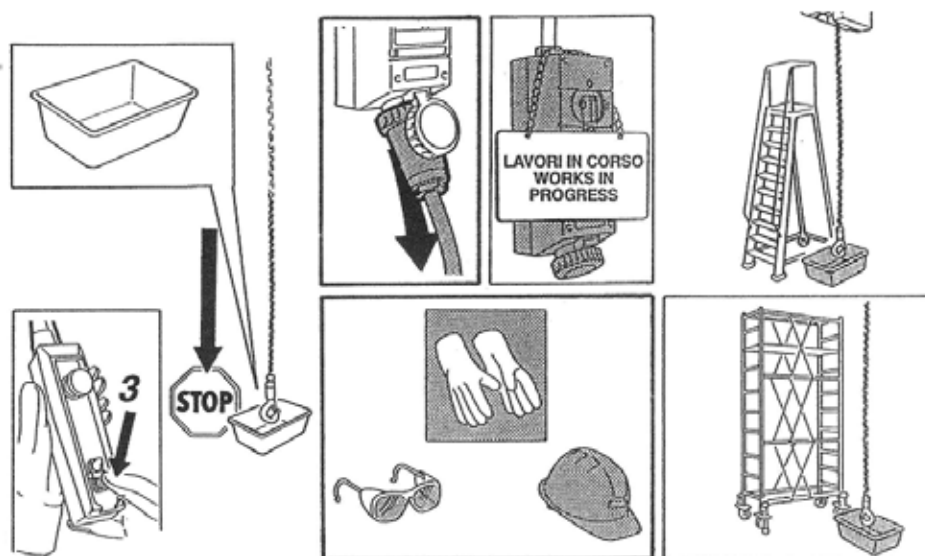

fig.84
1. Place the collection basin under the hook. (fig.84)
2. Press the hook descent button "3" until it stops at the descent limit switch, then release the button. (fig.84)
3. Place the ladder or scaffolding to the side of the chain as required. (fig.84)